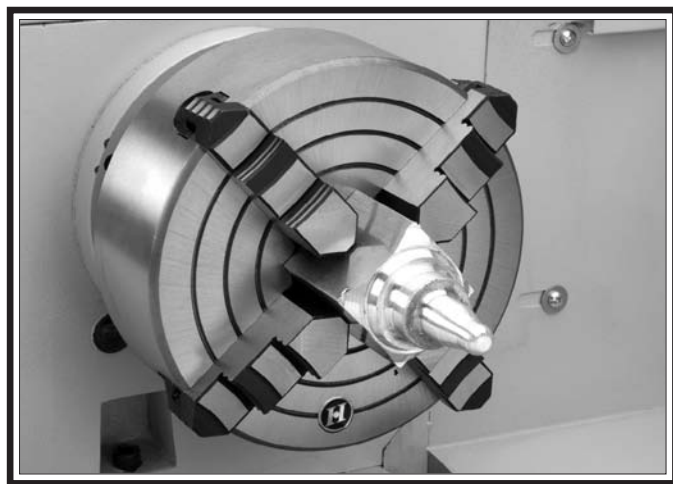

Figure 37. Example photo of non-cylindrical workpiece correctly mounted on the 4-jaw chuck.
- If the workpiece is not correctly centered, make fine adjustments by slightly loosening one jaw and tightening the opposing jaw until the workpiece is correctly positioned (see **Figure 37** for an example).